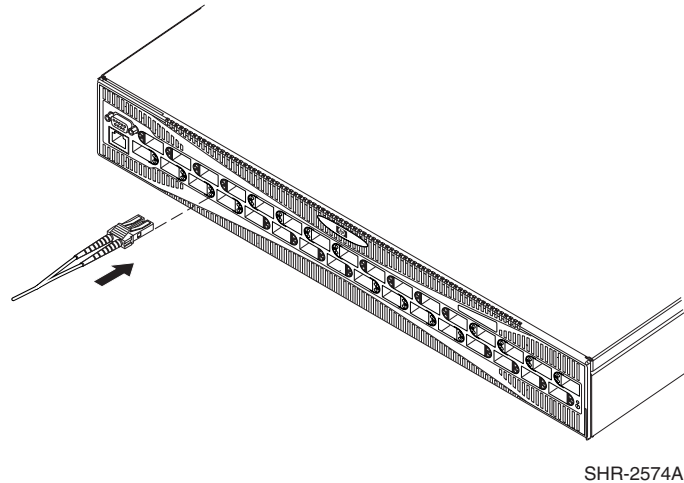

Figure 16: Inserting a cable into an SFP
4. Connect the cables to the SFPs as appropriate to the fabric topology by positioning each cable so that the key (the ridge on one side of the cable connector) is aligned with the slot in the SFP. See Figure 16.